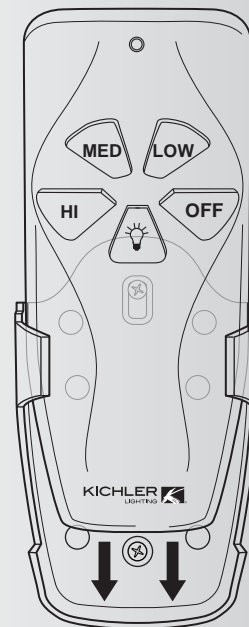

Fig. 26
2. Your transmitter slips into the wall pocket and may be used from this location or removed and used as a Hand Held mobile transmitter. (Fig.26)